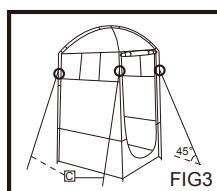

FIG3
6. Tie one end of the guy ropes <C> onto the four corner hoops of outer tent <A>. (FIG3)
7. Tie the other end onto the tent pegs <D> and fasten them by inserting the tent pegs <D> into ground. (FIG3)